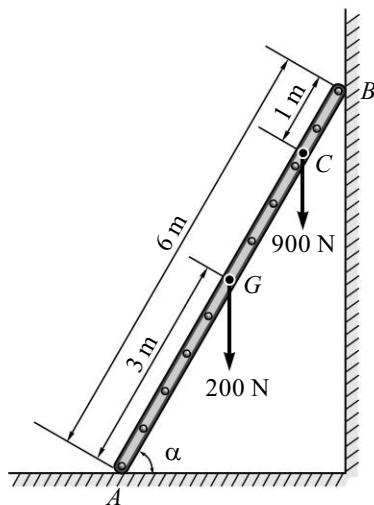

Fig. 8.E41
42. A horizontal bar 1 m long and of negligible weight rests on rough inclined plane, as shown in Fig. 8.E42. If the angle of friction is 15° , determine the minimum value of x at which the load $Q = 200 \text{ N}$ may be applied before slipping occurs.